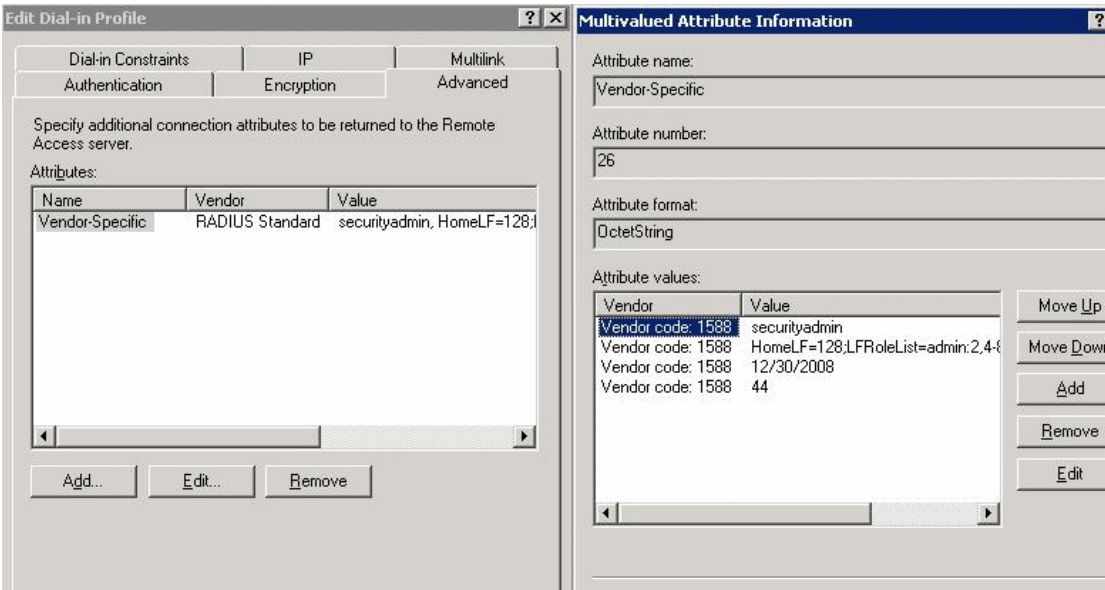

FIGURE 13 Windows 2000 VSA configuration
To configure a Windows 2000 internet authentication service (IAS) server to use VSA to pass the Admin role to the switch in the dial-in profile, the configuration specifies the Vendor code (1588), Vendor-assigned attribute number (1), and attribute value (admin), as shown in Figure 13.